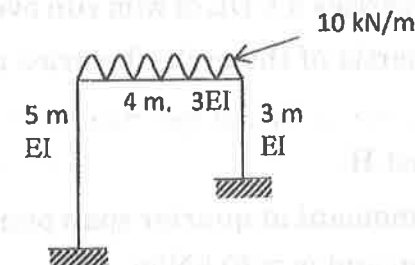

Fig. 15.a.
15. a) Analyse the frame shown in Fig. 15.a by moment distribution method.